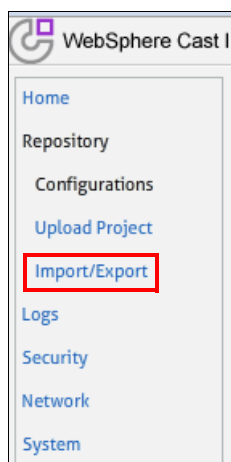

Figure 6-3 Import/Export repository
2. Click **Repository** → **Import/Export**, as shown in Figure 6-3.